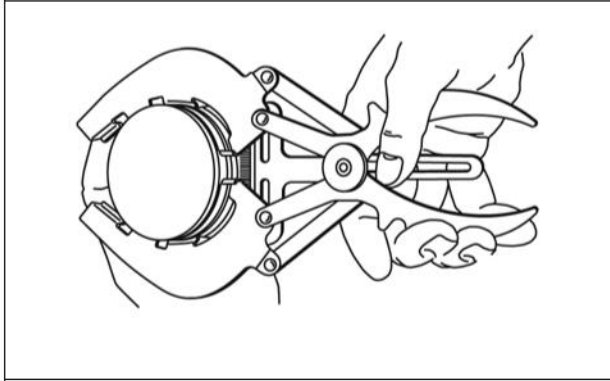

Figure 1
1. Remove compression rings using Ring Expander #19340 (Figure 1).